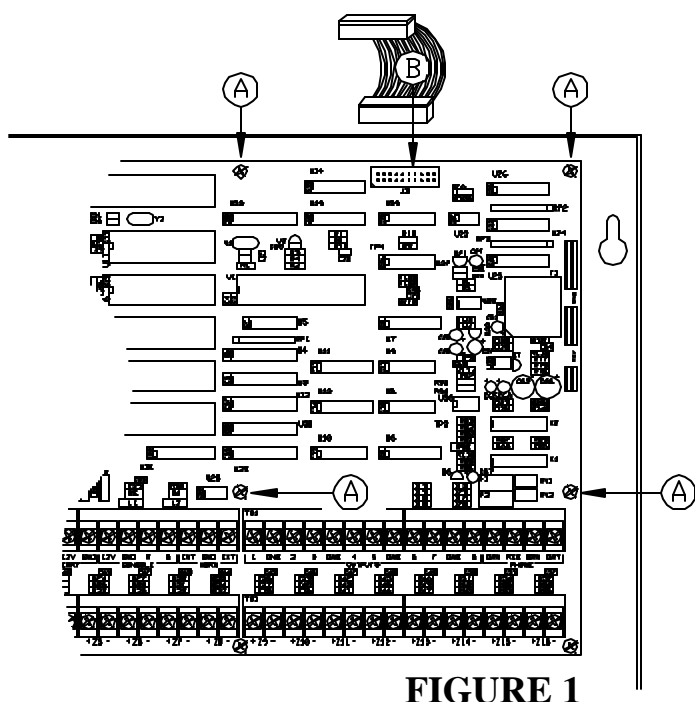

FIGURE 1
2. Remove 4 6/32 x 1/4 Phillips screws marked "A" in Figure 1. Retain screws for future step.
3. Connect supplied cable to 20 pin connector (J3) on controller marked "B" in Figure 1, or to open 20 pin connector on current module installed on controller.